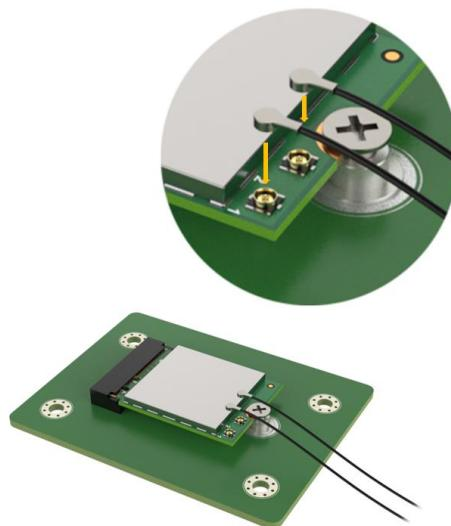

Figure 3-9: Securing WLAN Module and Connecting RF Cables
Step 6: Secure the WLAN module. Secure the WLAN module with the retention screw previously removed (**Figure 3-9**).
Step 7: Connect the two RF cables to the antenna connectors on the WLAN module (**Figure 3-9**).